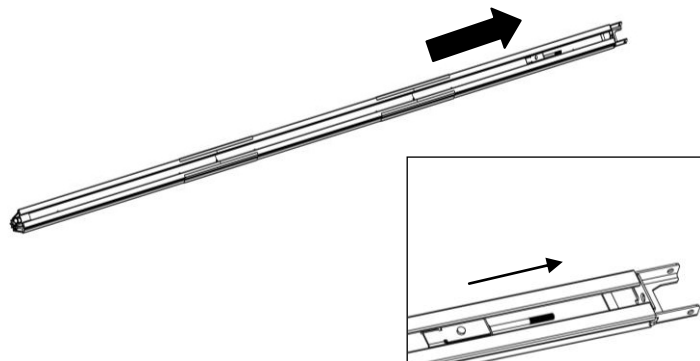
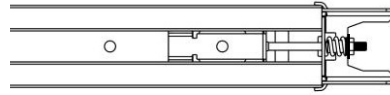

Figure 5
Figure 7
1. Cut the zip-tie. Slide piece C into the first sleeve followed by piece D. Then slide piece D and E into the second sleeve. During this process, pull the screw rod along with inner chain to the end rail position. See figure 5.
4. Tighten the nut to the proper position as shown in Figure 7. Make sure that the chain sits clean on the rear sprocket and the front pulley (see pictures below). Otherwise, the threaded rod can not be pushed far enough through the hole (Fig. 5).